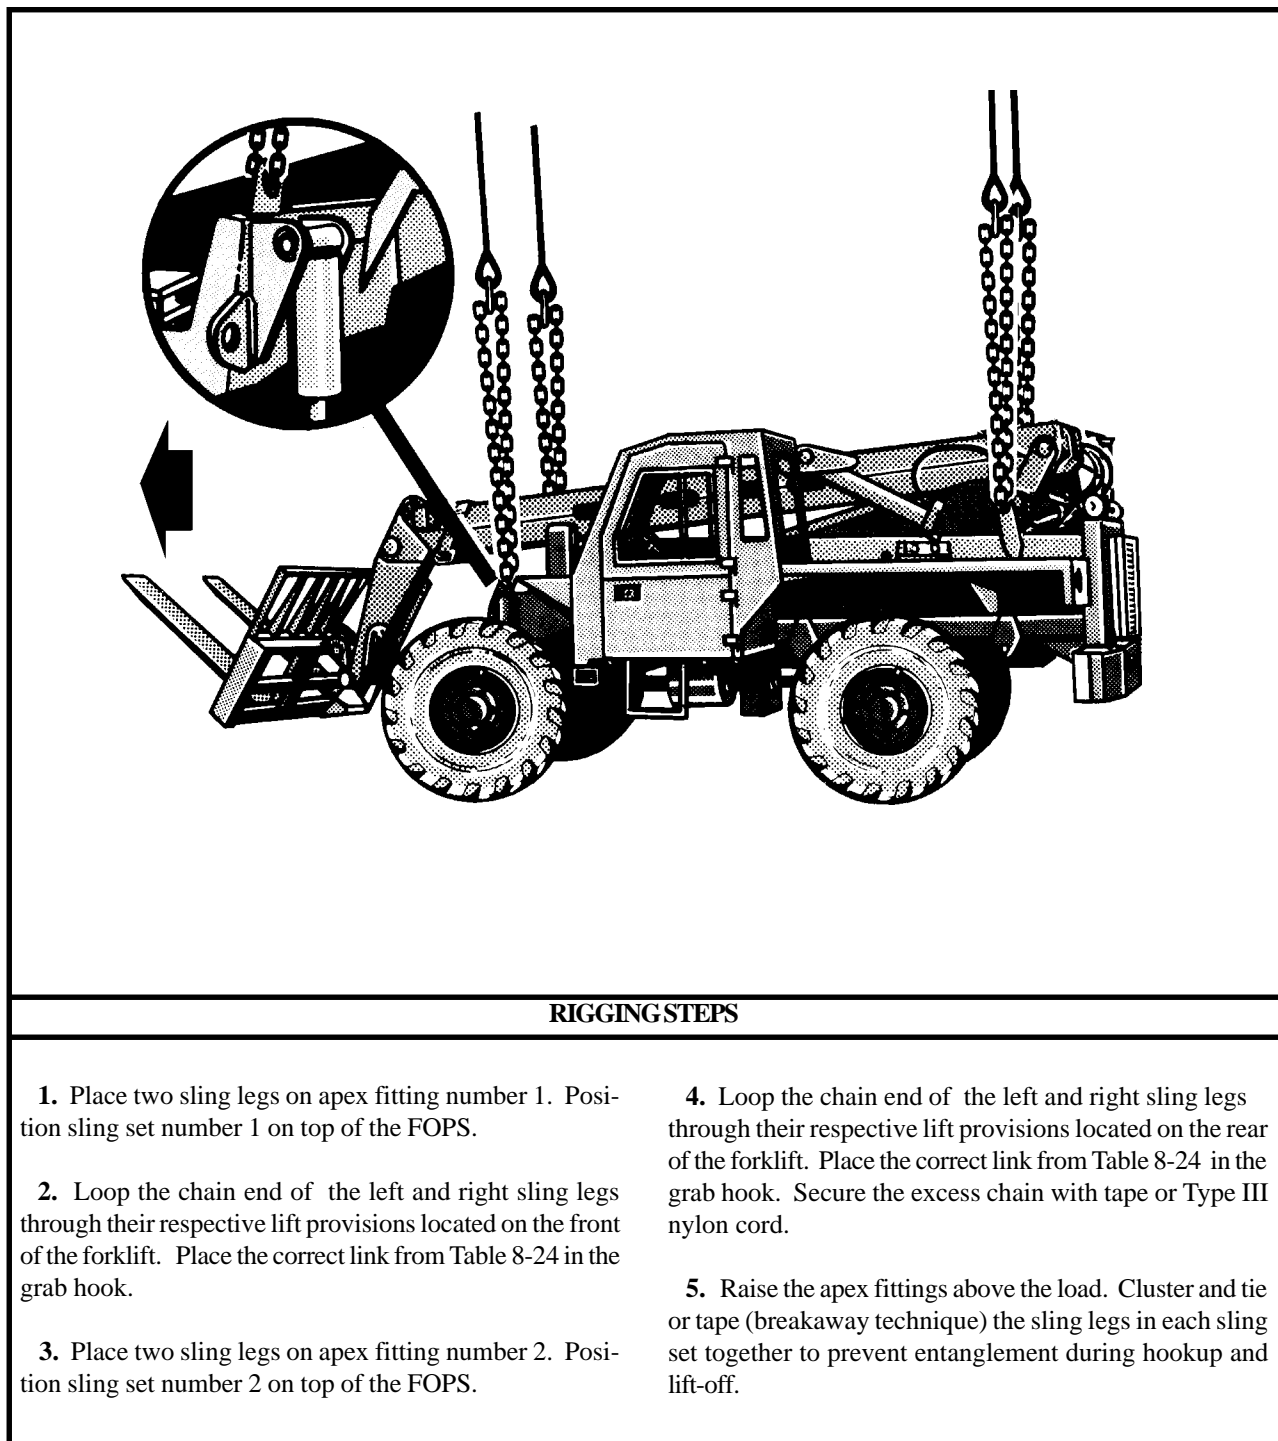

Figure 8-24. Extendable Boom Forklift
- (1) **Preparation.** Prepare the load using the following steps:
(2) **Rigging.** Rig the load according to the steps in Figure 8-24.
(4) **Derigging.** Derigging is the reverse of the preparation and rigging procedures in steps d (1) and d (2).